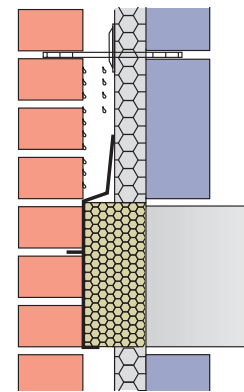

Fig.6
The Acoustray comes in cavity options, mainly for the selection of insulation, with an adjustable cavity tray that should naturally lean back and rest against the cavity wall insulation to protect the clear cavity (see figs 6 & 7).
- Where partial fill cavity wall insulation is used see figs 6 & 7
- Fig.6 shows the Acoustray fitted with insulation spanning the full cavity width. This option requires the cavity wall insulation to be cut at the section where the Acoustray is to be installed and is recommended for full fire resistance and acoustic requirements
- Determine and stipulate the cavity width that the Acoustray needs to suit. (see figs 6 & 7 for partial fill or full fill cavity options)